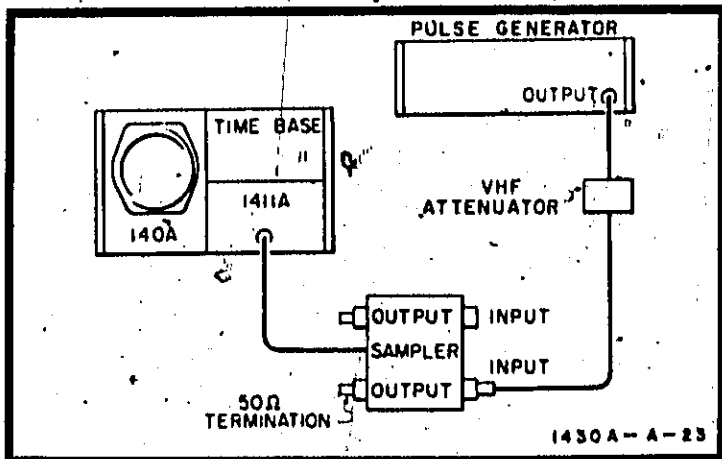

Figure 5-3. Noise Test Setup
b. Connect pulse generator output through VHF attenuator to channel A INPUT of sampler as shown in Figure 5-3.